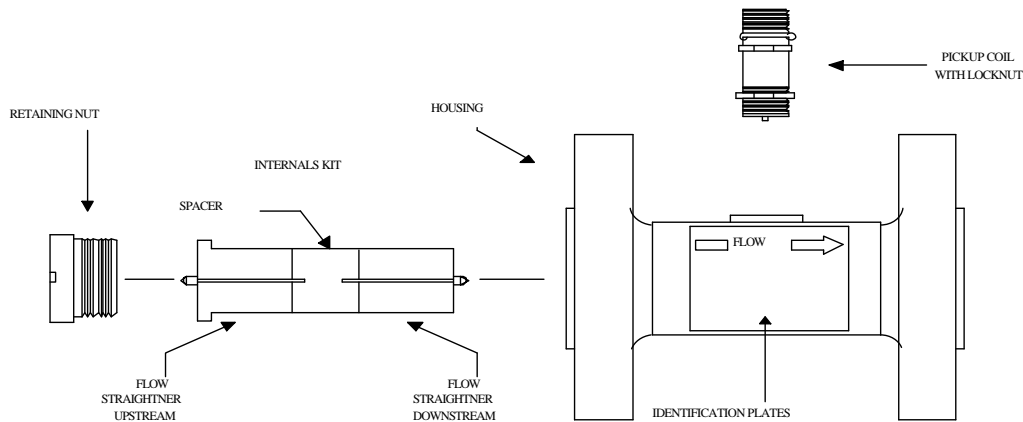

Figure 3 Flow Sensor Disassembly
4. Study Figure 3 prior to disassembling the flow sensor. Use the appropriately sized spanner wrench to remove the retaining nut on the flowmeter inlet. The internals kit may now be removed from the flowmeter housing.
Insert the assembled internal kit (see Figure 3) into the flowmeter housing. Apply thread locking adhesive #242 (blue) to the retaining nut and thread the retaining nut into the housing.